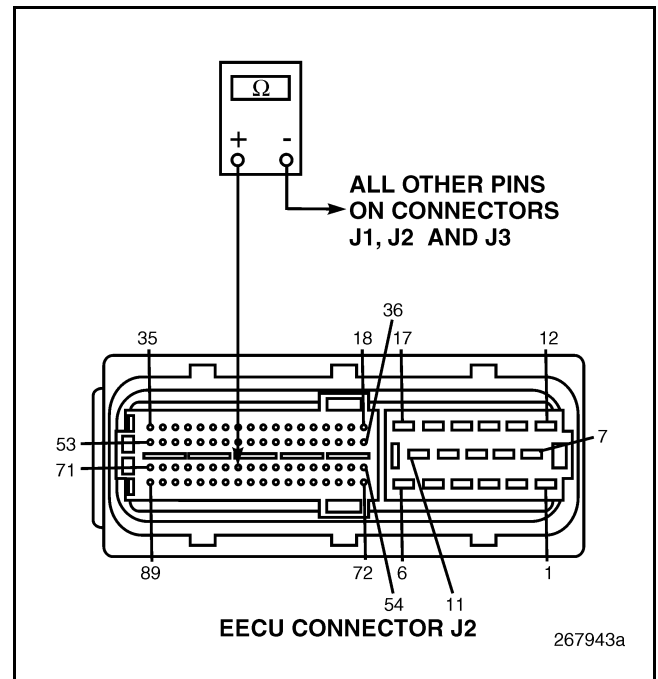

Figure 290
4. Check for continuity between EECU harness connector J2 pin 64 and all other pins on EECU connectors J1, J2, and J3 (see Figure 290).